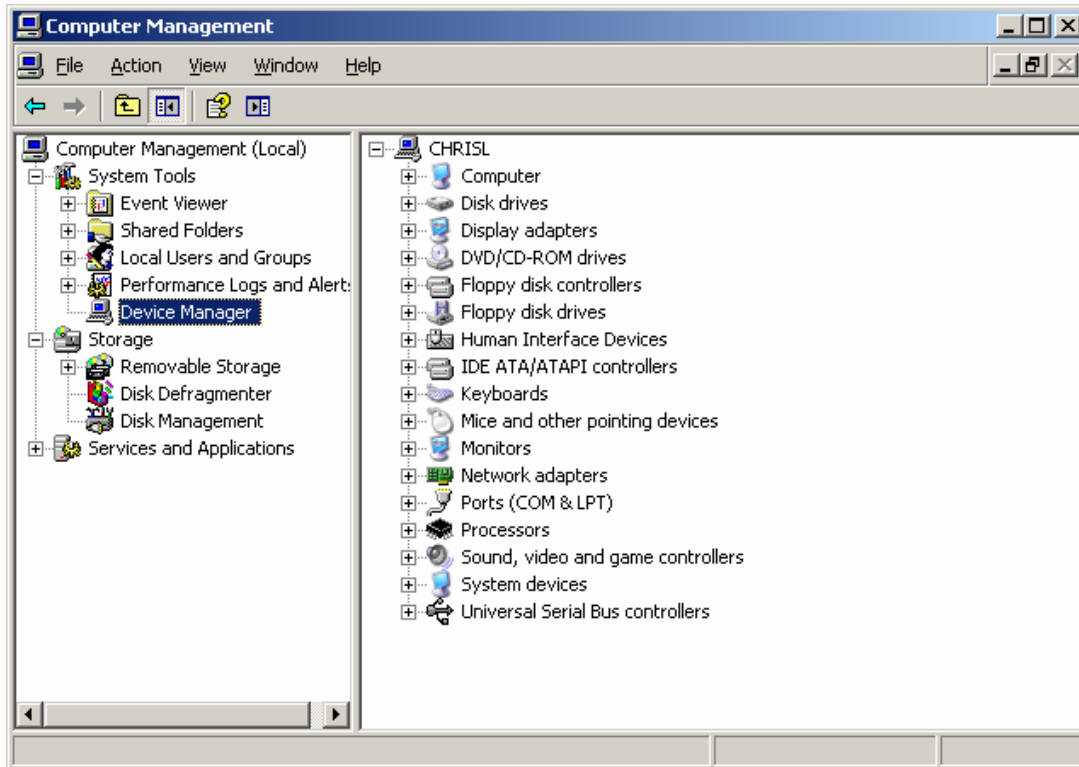

Figure 38
5. This will update the **Computer Management** window to look similar to what is seen in Figure 38. Find **Ports (COM & LPT)** on the device category list.